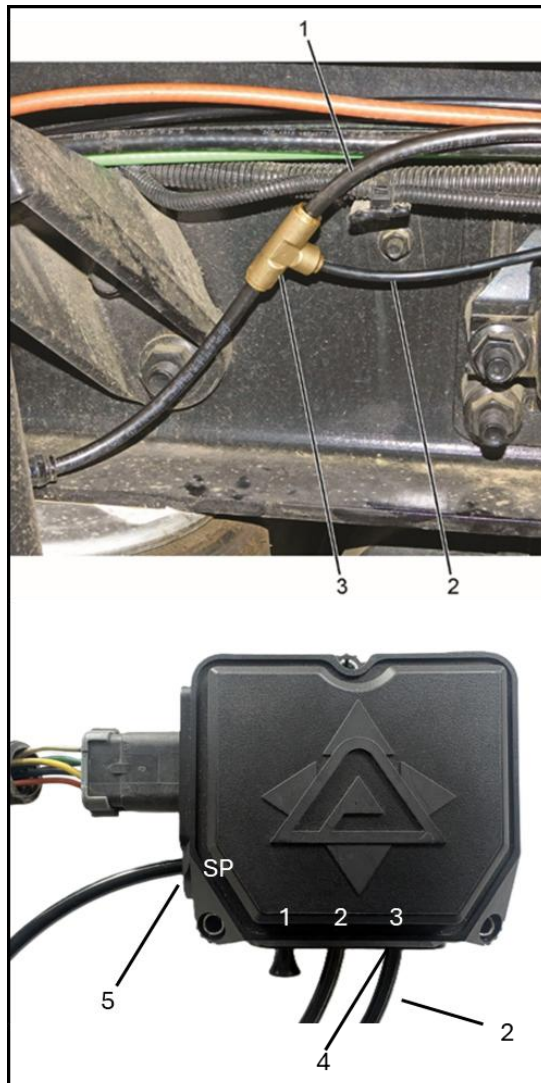

Figure 8
24. Using T fitting (Figure 8, Item 3) connect to vehicle air ride suspension supply line (Figure 8, Item 1). (See vehicle pneumatic schematic for air ride supply location.)
25. Connect air tube (Figure 8, Item 2) to T fitting (Figure 8, Item 3) and route to MiLift PCU.
26. Connect air tube (Figure 8, Item 2) to MiLift PCU port 3 (Figure 8, Item 4), and secure with wire ties as needed.
**NOTE:** The PCU will deploy the first deployable lift axle at target deploy (PMP -5%) pressure through the side port (SP) Figure 8, Item 5). The second deployable lift axle will be deployed by the PCU after the deploy target pressure is reached (PMP -5%) again through pilot port 1 (Figure 8, Item 4). To determine accurate suspension weight, calibration with a certified scale is recommended. Lift pressure setting is set to PMP -60%.